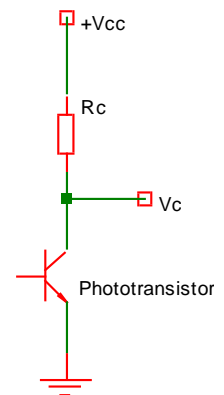

Fig. 2: Phototransistor in common-emitter configuration.
- Configure the phototransistor as a common-emitter (see Fig. 2).